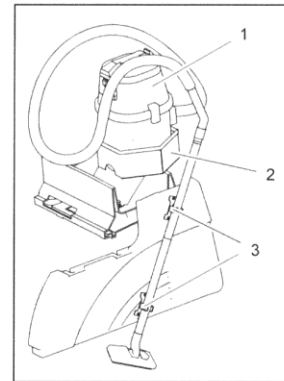

Fig. 1 Parts set
- 24 V cleaner (5m cable, stranded) (Fig. 1/1)
- Cleaner holder (Fig. 1/2) with:
- Holder for cleaner tube (Fig. 1/3) with: